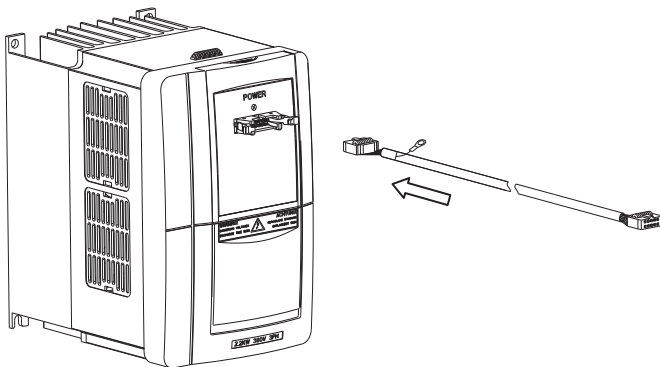

Fig. 3-10 Mounting Diagram for the operator panel and connecting wire of the inverter Model A
Step 3. Insert the optional cable with the grounding-side into the slot of interface board . (as shown in Figure 3-10).